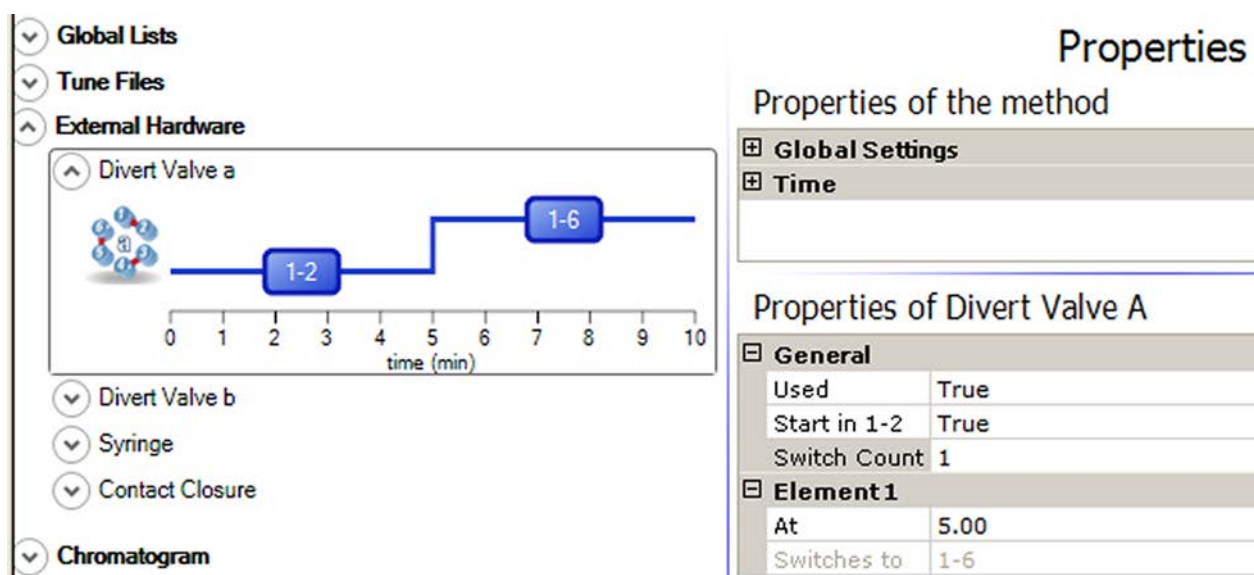

Figure 3-8. Properties of a switching valve that is used
The Divert Valve items show graphic representations of the activities of the optional switching valves during the active acquisition. See Figure 3-8. The normal LC flow through the switching valve (Position 1-2) is to the mass spectrometer. When the switching valve is activated (Position 1-6), LC flow is diverted to waste.
- Right-click in the pane to display the shortcut menu. Choose **Activate**. The gray color  changes to the blue color . See Figure 3-8.
A step in the line of the graphic representation indicates the new switch point. See Figure 3-8.